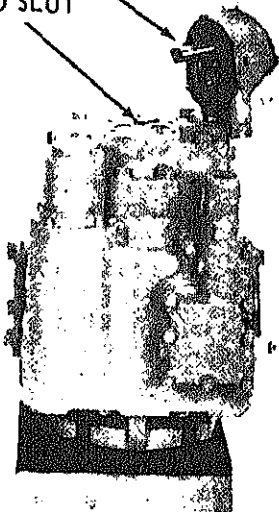

FIGURE 7-49.
- b. Line the drive tank on charge pump shaft with the slot on the main pump shaft (see figure 7-49). The charge pump should assemble freely with the main pump. Do not force charge pump into position. Hold aluminum spacer in position with fingers to prevent its dislodging.
- c. Torque the four (4) mounting bolts to 10-11 ft. -lbs. (1.38-1.52 kg-m).